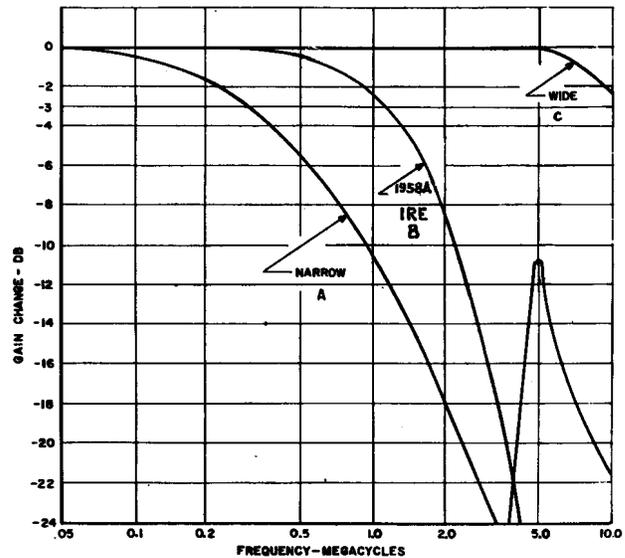

Fig. 8 – Oscilloscope Frequency Response
**4.08** The plate load of electron tube V1 (this description applies to V2 also) on the WIDE position of switch S4, consists of resistance R29 in series with R28 and capacitor C15B in parallel. R28 and C15B provide low-frequency compensation. This combination provides maximum bandwidth, as shown in Fig. 8.
**4.09** To provide a transmission characteristic with a 1958A IRE roll-off, capacitors C79, C80 and inductor L13 are connected across the plate load when switch S4 is operated to the 1958A IRE position. This characteristic also is shown in Fig. 8.
**4.10** To use the oscilloscope in conjunction with a J64047A Transmission Measuring System, the bandwidth is modified as shown in Fig. 8, by operating switch S4 to NARROW. This connects capacitor C20 and inductor L3
**5.07** Set the BANDWIDTH switch to the proper position. The WIDE band is used for multiburst testing and waveform analysis requiring the widest bandwidth. The 1958A IRE bandwidth follows the curve data of the 1958A IRE specifications. The 1958A IRE response is used when making signal level measurements. The NARROW bandwidth is employed when the oscilloscope is operated in conjunction with the J64047A transmission measuring set, and for measurements requiring high sensitivity. (See Fig. 8 for specific frequency response curves.)